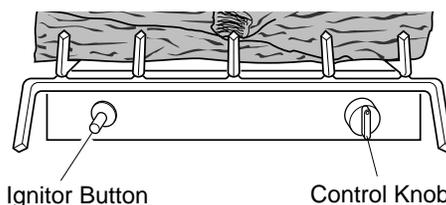

Figure 22 - Control Knob and Ignitor Button Location
- Wait five (5) minutes to clear out any gas. Then smell for gas, including near the floor. If you smell gas, STOP! Follow "B" in the safety information, page 15. If you don't smell gas, go to the next step.
- Press in control knob and turn counterclockwise  to the PILOT position. Keep control knob pressed in for five (5) seconds (see Figure 22, page 15).